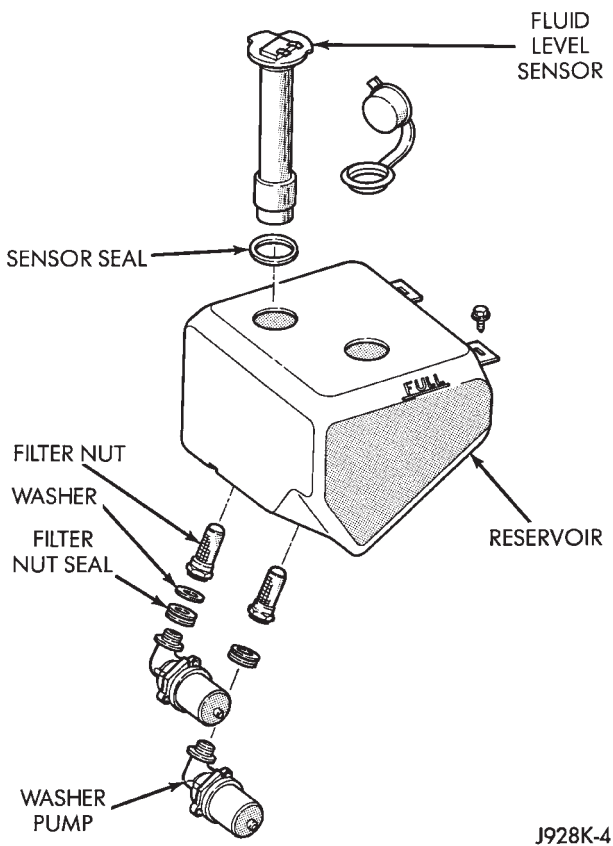

Fig. 6 Washer Reservoir and Pumps—Typical Left Hand Drive
(2) Disconnect hose from pump(s) (Fig. 6).